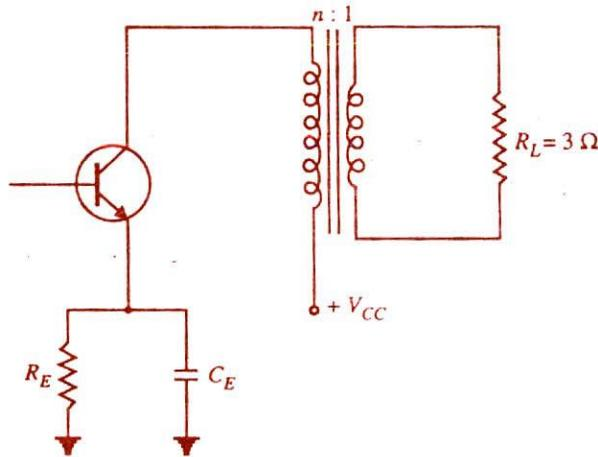

Fig. 13.16
**Example 13.17.** The output resistance of the transistor shown in Fig. 13.16 is  $3\text{k}\Omega$ . The primary of the transformer has a d.c. resistance of  $300\ \Omega$  and the load connected across secondary is  $3\ \Omega$ . Calculate the turn ratio of the transformer for transferring maximum power to the load.